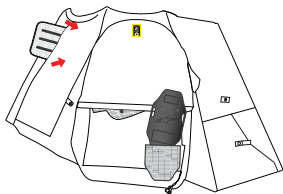

Figure 15
5. Regarding the front part of the Airbag that covers the chest area, open the clip, detach the hook-and-loop patches placed on the front and back of the Airbag. Finally, remove the Airbag through the aperture present above the right sleeve (Figure 15).